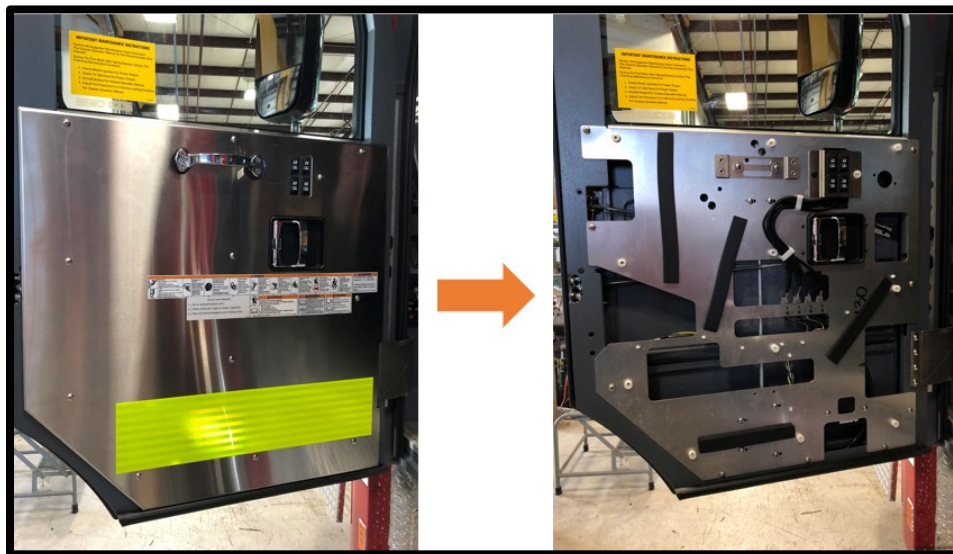

Figure 2
1. Remove door pull handle (Figure 2).
2. Remove door panel (Figure 2).